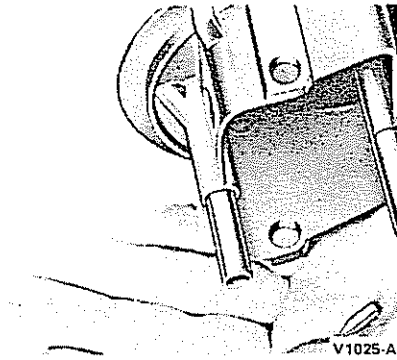

FIG. 26 — REMOVING ACCELERATING PUMP DISCHARGE NEEDLE
5. Invert the main body and let the accelerating pump discharge needle fall into the hand (Fig. 26). Remove the throttle operating shaft housing back-up plate and gasket.